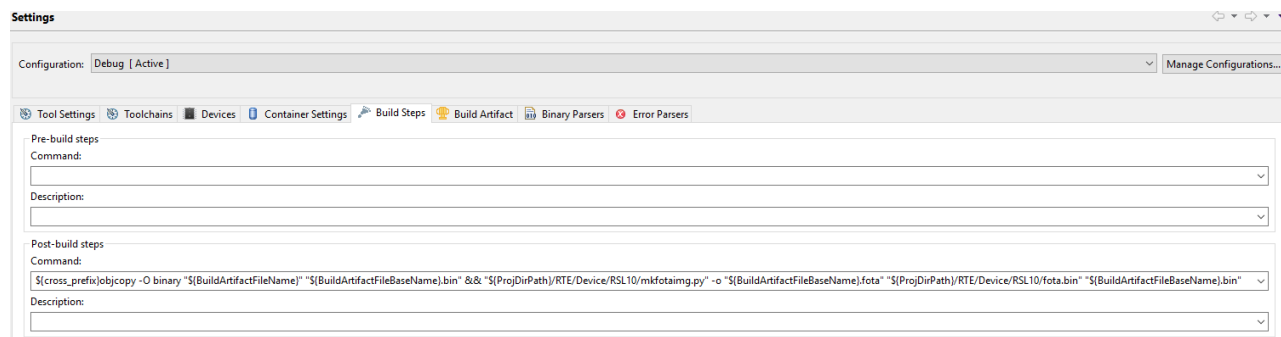

Figure 16. Post-Build Steps
- Modify the project post-build steps (see the figure "Post-Build Steps" \(Figure 16\)) to generate the FOTA image in both Debug and Release build configurations, by going to **Project > Properties > C/C++ Build > Settings > Build Steps > Post-build steps**. Two steps are required to generate the *.fota* image. First, we need to generate the application sub-image *.bin* file using *objcopy*. Then, we use the *mkfotaimg.py* tool to generate the FOTA image (*.fota* file). Both commands can be concatenated with "&&" and added to the post-build steps as in the example that follows. To use this command, copy the code from the Post-Build steps of the existing sample application *ble_peripheral_server_hrp_fota.*, as the code in the text below is not directly copyable.